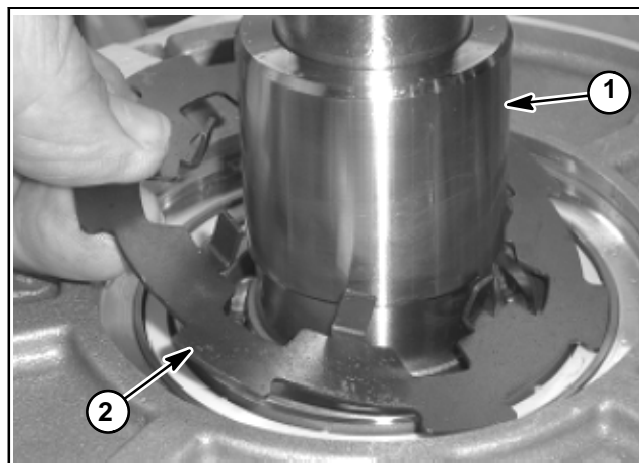

Figure 24
4. Set the armature plate onto the coil located in the cover plate (Fig. 24). The internal tangs of the armature plate should face up as shown.